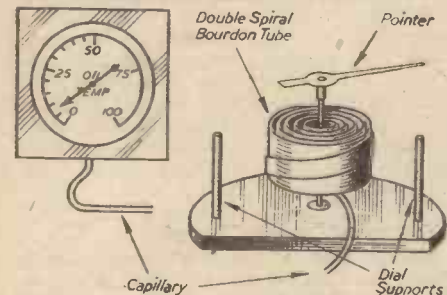

Fig. 5.—An oil temperature thermometer, and details of the double spiral tube mechanism.
**Oil Thermometer.**—This is fitted to ascertain the temperature of the oil in the engine, as an added precaution to ensure that the engine does not become overheated (Fig. 5).